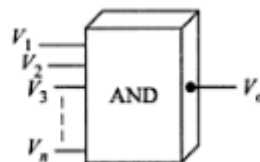

Figure 1.12: AND gate
- This is a digital circuit having 2 or more inputs and a single output (Figure: 1.12 & 1.13).